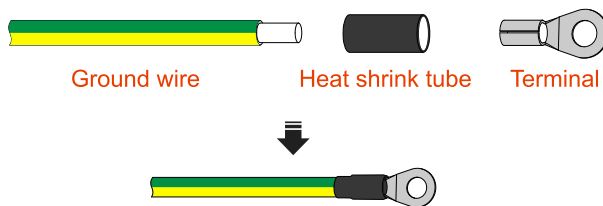

Figure3-26 Ground wire stripping diagram
Step 1 Strip the insulation layer of the ground wire with a crimping tool to a suitable length, and press into the corresponding terminal, as shown in Figure3-26.